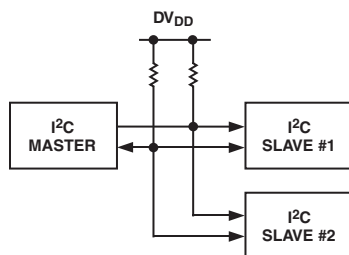

Figure 35. Typical I2C System
- An I2C master can communicate with multiple slave devices. Because each slave device has a unique 7-bit address then single master/slave relationships can exist at all times even in a multislave environment (Figure 35).